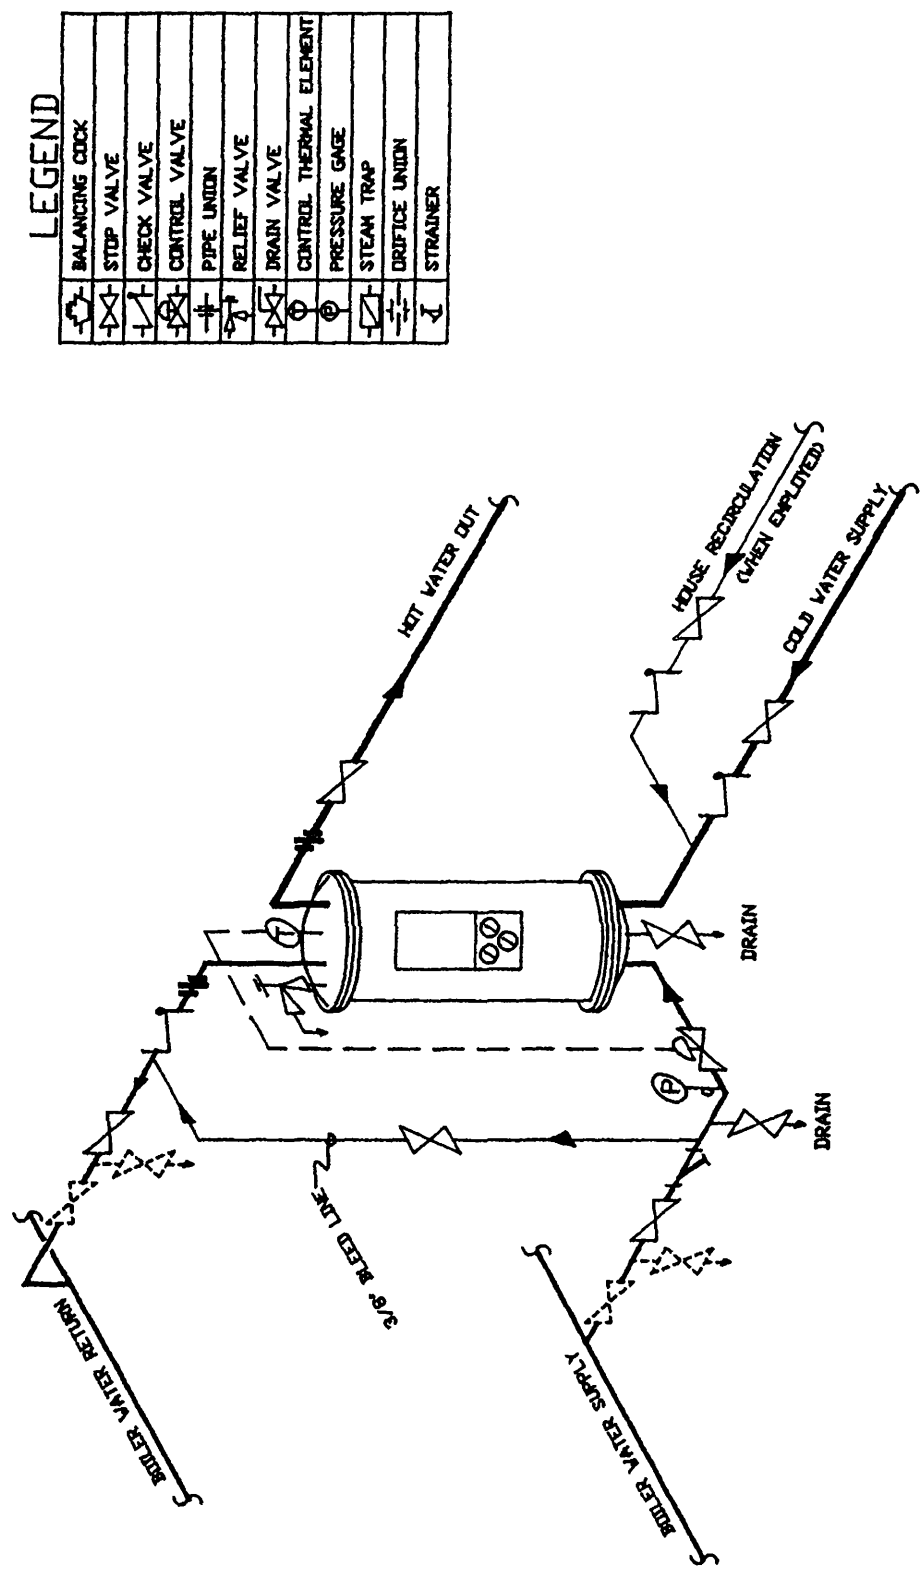

Figure HE-108-5 -- Piping Required for Water to Water Packaged Heater, Model WN3E-PLUS, with 2-Way Control Valve
- Water to Water with 2-Way Control Valve -- Figure HE-108-5
- f. For a Water to Water Heater where the Primary Fluid (HTH Water) temperature is high enough to cause significant flashing, AERCO recommends the use of "double block and bleed" valving (shown dotted in Figures HE-108-5 and HE-108-6) in both the Primary supply and return lines to permit safe access to the equipment for maintenance.
- h. The 3/8" bleed line shown in Figure HE-108-5 from the Primary supply line to the Primary return line is required to provide a constant circulation of High Temperature Hot Water and, thus, constant Hot Primary Water in the supply line to the Heater